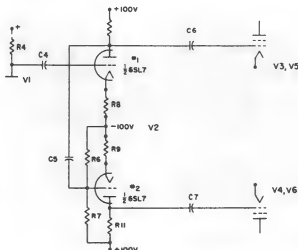

Fig. 2—Phase Inverter Schematic
2.07 The second 6SL7, V2, is a voltage amplifier which converts the single input to push-pull output to drive the push-pull power output tubes, V3, V4, V5 and V6. The circuit of V2 in which a single input is converted to push-pull output is shown schematically in Fig. 2. The two sets of elements of V2 are labeled for convenience #1 and #2. Section 1 acts as a conventional single ended amplifier and accepts the signal voltage from the plate load resistor of V1, amplifies it and supplies the driving voltage for the grids of V3 and V5. Signal voltage from the plate load resistor of section 1 of V2 is also applied through capacitor C5 to the grid of section 2 of V2. The requirements under